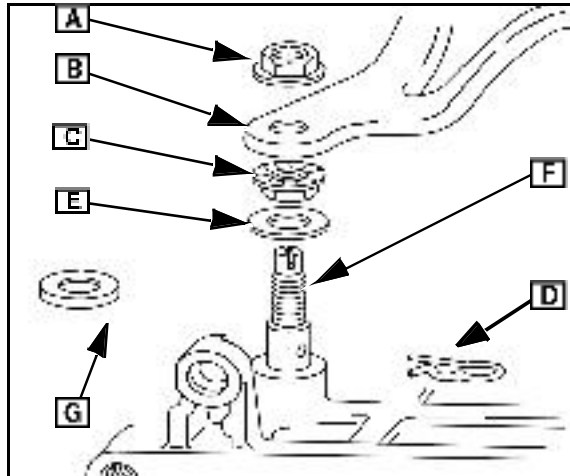

Fig. 19
7. Place felt seal (G) (if equipped) and thrust washer (E) on crank. Insert spring clip (D) in governor crank (F), Fig. 19.
9. Install lower nut (C) on governor crank (F) with serrations UP until nut bottoms on threads of the crank. Tighten nut (left hand threads), Fig. 19.
10. Place governor lever (B), on governor crank (F).
11. Install top nut ([A] Fig. 19) with serrations down on lever.